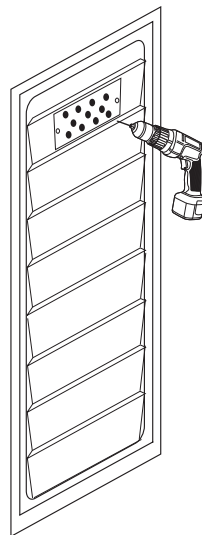

fig.3
3. Use a dia. 1/2" (12.5mm) drill bit to drill out as many holes as desired behind the ventilation cover mounting area as in fig.3.